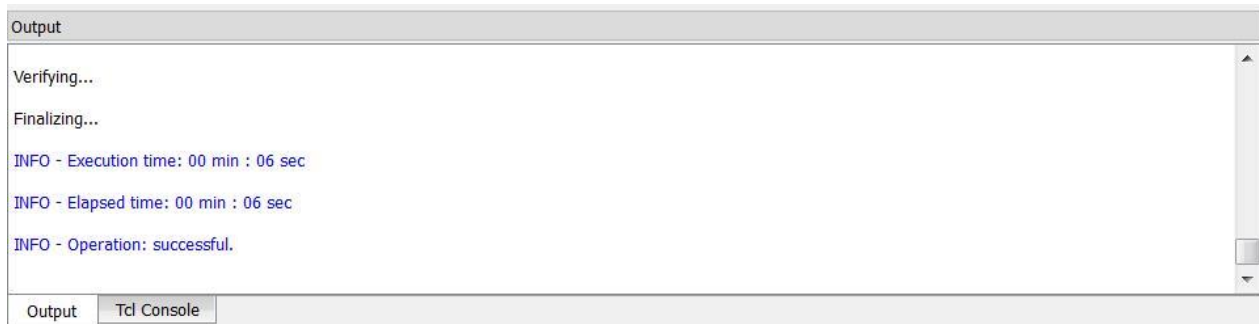

Figure 4.4. Output Console
6. After successful programming, the **Output** console displays the results as shown in Figure 4.4.